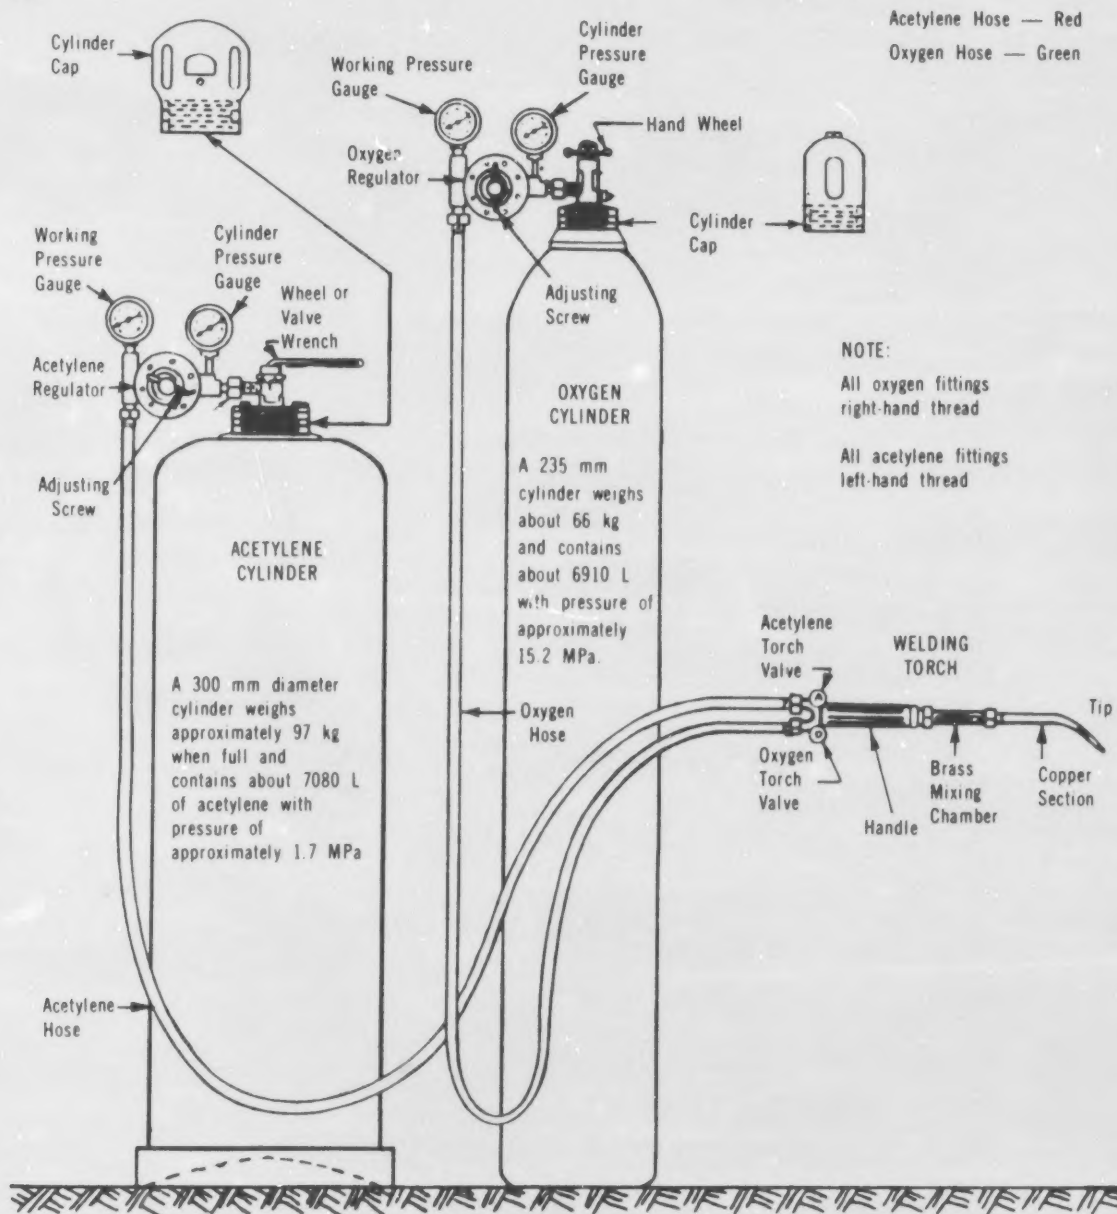

Figure 18-1. Typical Oxyacetylene Outfit
Figure 18-1 depicts a typical oxyacetylene welding set-up:
Note the following components of a welding set-up in Figure 18-1:
b) A typical welding torch of the type discussed here is seen in Figure 18-1, where the basic components are shown as the acetylene torch valve, the oxygen torch valve, the handle, the brass mixing chamber, and the tip.